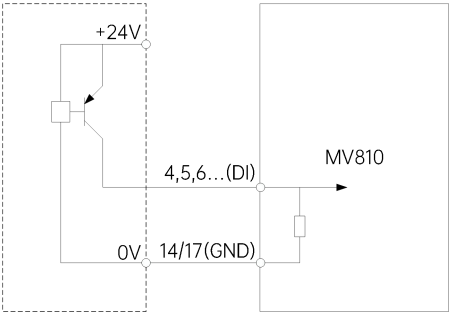

Fig. 4-15 Wiring diagram with PNP and using the external power supply
③ When the external power supply is used and the external controller is the PNP common emitter output, the wiring is shown in Fig. 4-15.